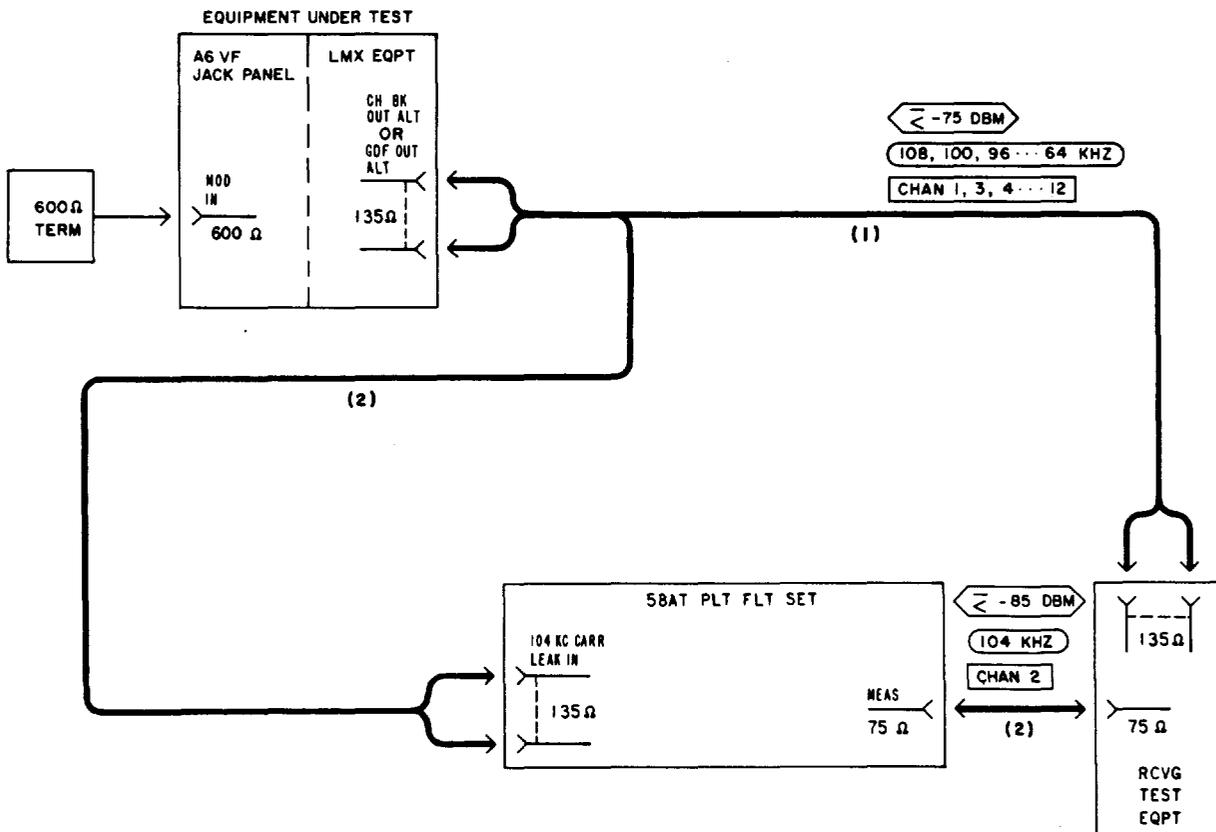

Fig. 4—Patching Diagram—Carrier Leak Test
- 2 Insert a 262B plug (600-ohm termination) in the MOD IN jack for the channel under test (Fig. 4).
- 3 At the LMX equipment, connect the RTE to the CH BK OUT ALT (LMX-2) or GDF OUT ALT (LMX-3) jack [patch (1), Fig. 4].
8	At the LMX equipment, remove patch (1), Fig. 4.
9	At the LMX equipment, connect the RTE, via the 104 KC CARR LEAK IN/MEAS jacks on the 58AT pilot filter set, to the CH BK OUT ALT or GDF OUT ALT jack [patch (2), Fig. 4].
11	At the LMX equipment, remove patch (2), Fig. 4.